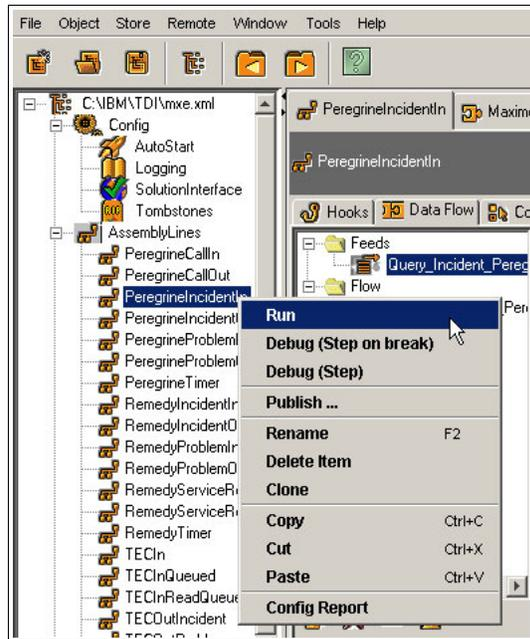

Figure 4-6 Running AssemblyLine manually
5. Run **PeregrineIncident** in the AssemblyLine to perform integration (Figure 4-6 on page 158).
- Run AssemblyLine manually as shown in Step 5., “Run PeregrineIncident in the AssemblyLine to perform integration (Figure 4-6 on page 158).” Example 4-6 on page 162 shows the output.